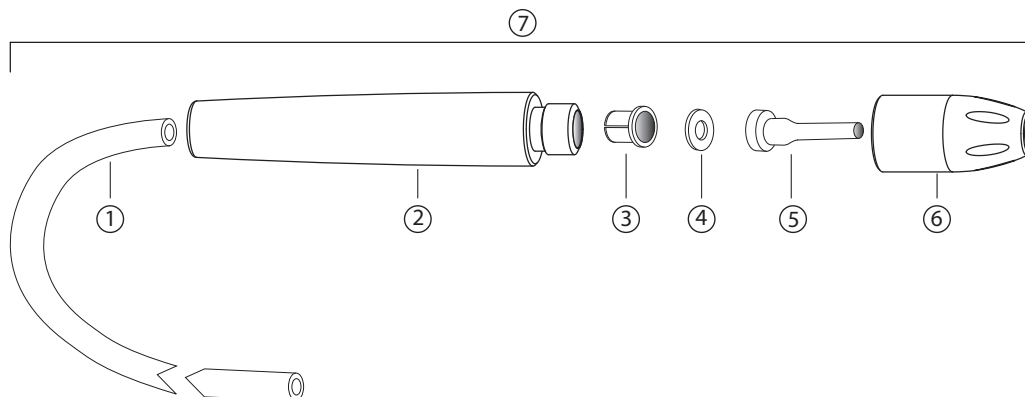

Figure 2
2. Remove the handpiece assembly ⑦ (Fig. 2) from inside the cabinet by pulling the tubing through the rubber grommet.
3. Unscrew the nozzle cap ⑥ to remove the tip ⑤ and O-ring ④. Using pliers, grasp the handpiece insert ③ and pull the tubing through the handle ② with a twisting motion. Avoid damaging the insert. Twist and pull to separate the insert from the tubing.